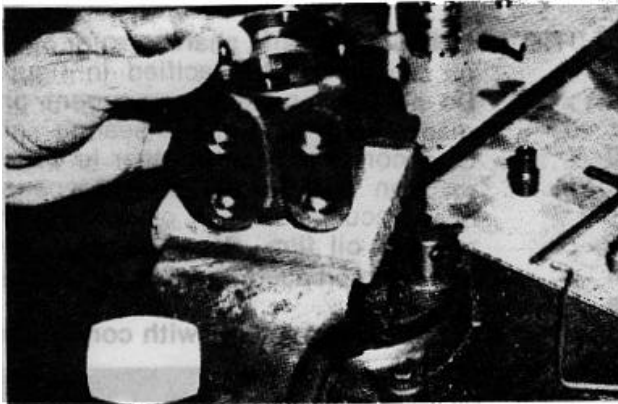

FIGURE 9-34
b. Drop check ball into check hole and insure that it rests on top of the small end of the spring within the hole (see figure 9-34). Place the check valve seat on hex wrench and screw into threads within check hole so that the machined counterbore of the check seat is towards the ball (see figure 9-35).